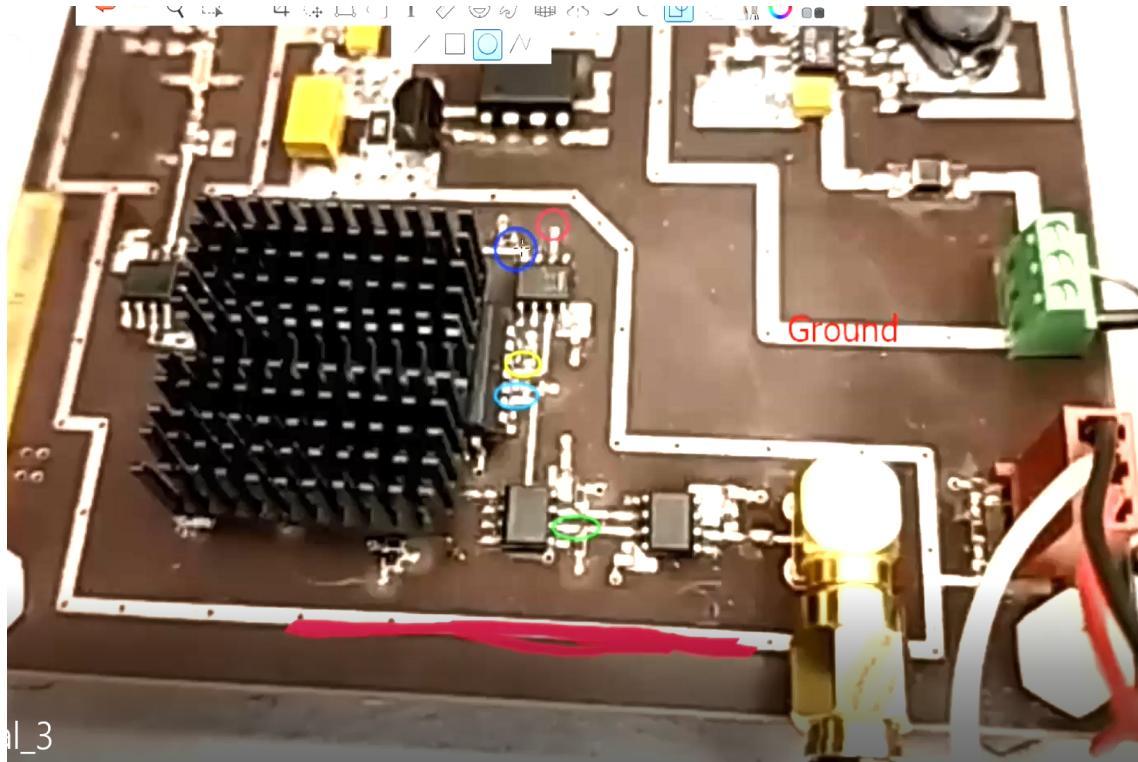

Fig. 5. The set of debug points on the PN-sequence generator's circuit board
- To ensure that the run-stop toggle switch on the PN-sequence generator is operating correctly, with the switch set to STOP, use a multimeter to measure the voltage between the GND strip and the point identified by a red circle in Fig. 5 -- the multimeter should read $4 \pm 0.3V$; and with the switch set to RUN, the voltage between the same two points should be $3 \pm 0.3V$;
- To check if a 10MHz square waveform is propagating through the PN sequence generator at the point highlighted by a green oval in Fig. 5, place a probe of an oscilloscope at this point and the other probe on the strip highlighted by a bold red line in Fig. 5 -- the 10MHz square waveform should appear on the oscilloscope as depicted in Fig. 6 (a horizontal [time] scale zoom-in might be needed to get a good view of the waveform
- As a final debug step, probe the signal between the point identified by a blue circle and the strip highlighted by a bold red line in Fig. 5 -- the observed waveform on the oscilloscope should be another 10MHz square waveform as depicted in Fig. 7; note here that in order to optimally observe this waveform, the oscilloscope might need to be "Edge Triggered" with a "Line Source" -- along with a vertical scale resolution of 1V per division and a horizontal scale resolution of $20\mu s$ per division.